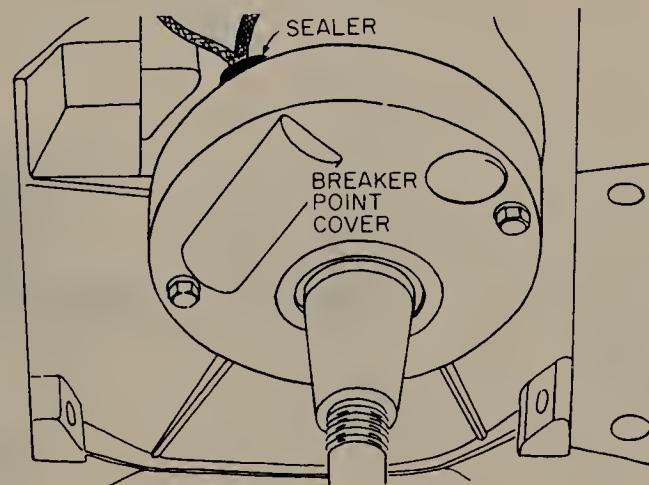

FIGURE 14.12 Breaker-point cover, also called the dust cover. (Briggs and Stratton Corporation.)
14.4 Dust Cover. On many engines with internal points, you will find that they are protected by a breaker-point cover, as shown in Fig. 14.12. Remove this cover carefully because if it is bent during removal it would not seal on reassembly and a new cover would be required. Note that the point where the leads come out from under the cover is sealed. This seal is made with Permatex or similar sealer, when the cover is replaced. A poor seal either around the rim of the cover or at the leads will allow dirt to get into the breaker-point compartment with the result that the points will burn and require frequent replacement.